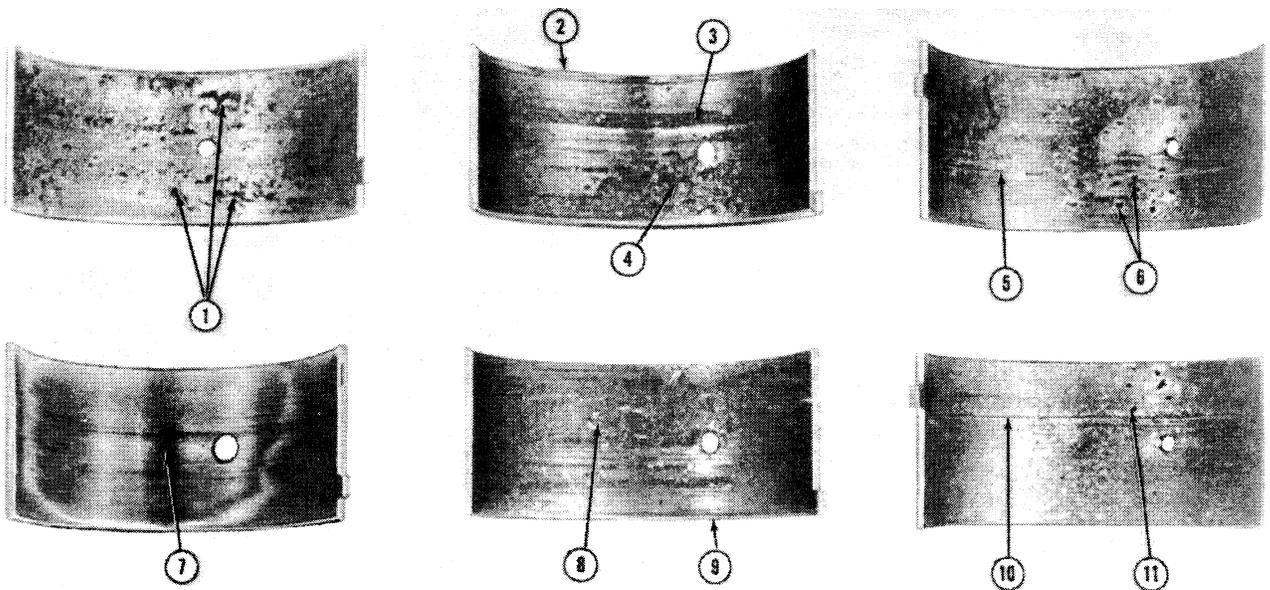

Figure 33
1. If the bearing liners are scored, have the fl overlay wiped out, show fatigue failure, or badly scratched, as shown in Figure 33, install n bearing liners.